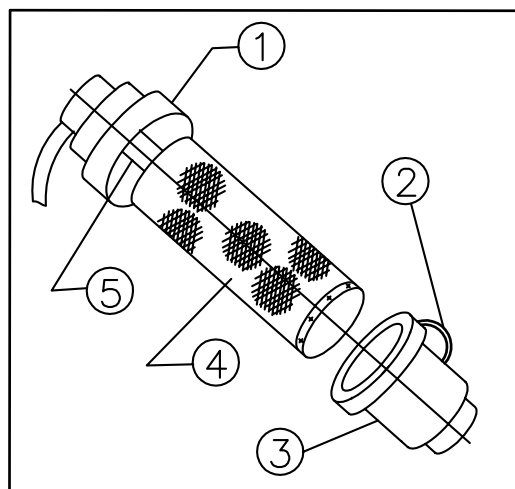

Fig.5-6
5.9 External Cartridge Of Dry Air Filter (Fig. 5-6)